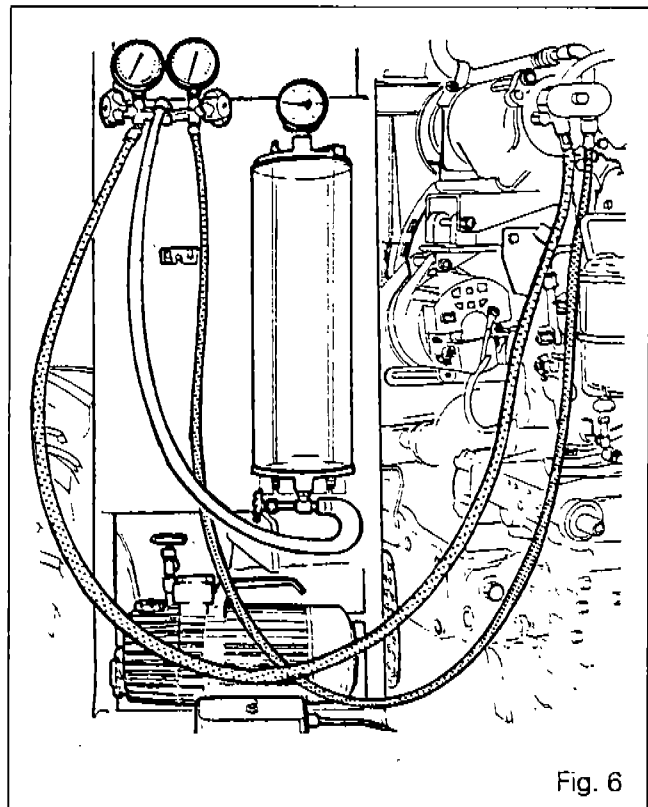

Fig. 6
2. Connecting the charging system (Fig. 6)